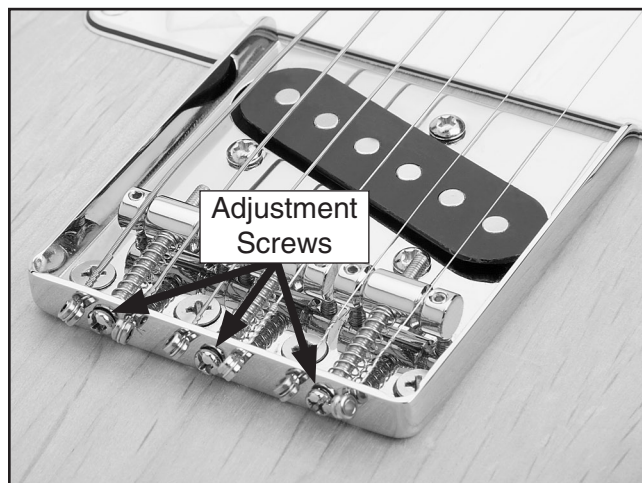

Figure 37. Saddle adjustment screws.
2. Now pluck the string while holding it fretted at the twelfth fret. If this note is sharper than the note played in **Step 1**, move the saddle away from the neck by turning the saddle adjustment screw (**Figure 37**) clockwise. If this note is flat in comparison, move the saddle toward the neck.